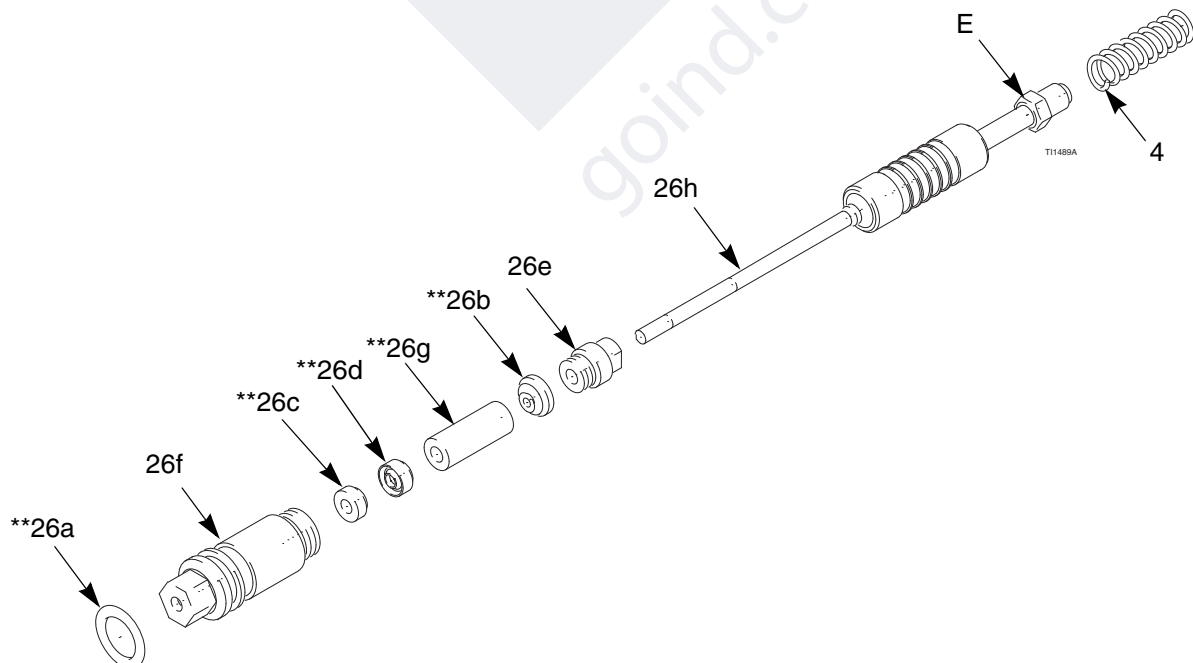

Fig. 14. Packing Rod
1. Place the packing nut (26e) and seal (26b**) on the fluid rod (26h). Flats on the packing nut must face the back of the fluid rod. The seal o-ring must face away from the packing nut. See FIG. 14..
2. Fill the inner cavity of the spacer (26g**) with dielectric grease (40). Place the spacer on the fluid rod (26h) in the direction shown. Generously apply dielectric grease to the outside of the spacer.
6. Install the spring (4) against the nut (E) as shown.
7. Install the packing rod assembly (26) into the gun barrel. Using the multi-tool (37), tighten the assembly until just snug.
8. Install the trigger (30) and screws (8).